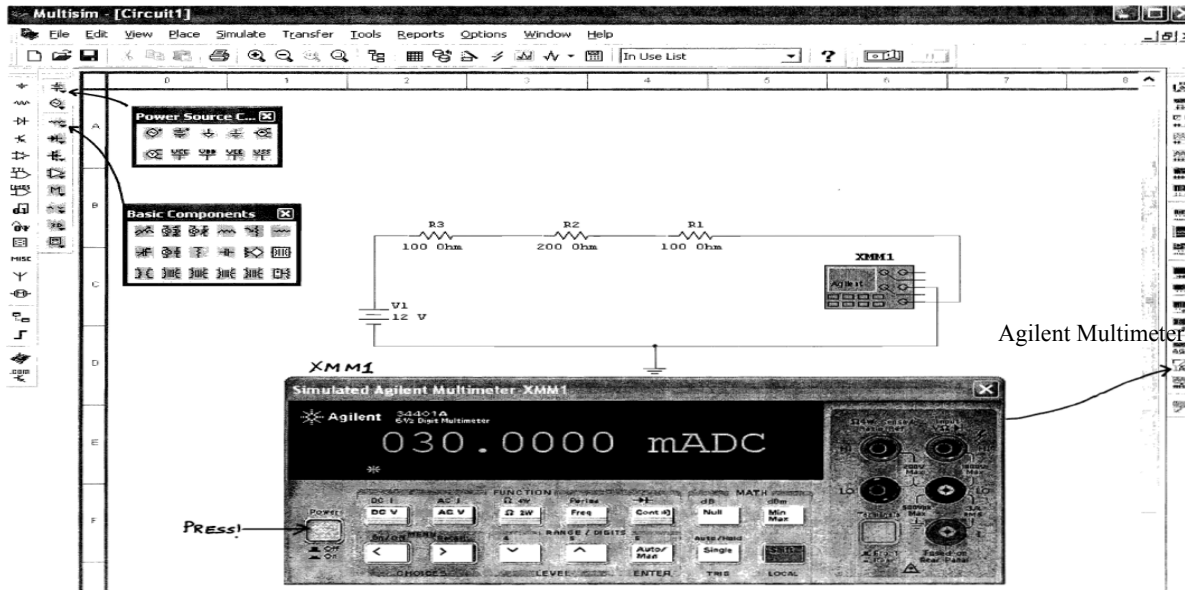

Figure 9 – Circuit Simulation in Multisim
- a. Open the Multisim software. Follow the arrows in the diagram below to create the circuit depicted in Figure 9. Save the file as ESE112_circuit1.ms7. Note: To change value on the components by double clicking on the individual component.